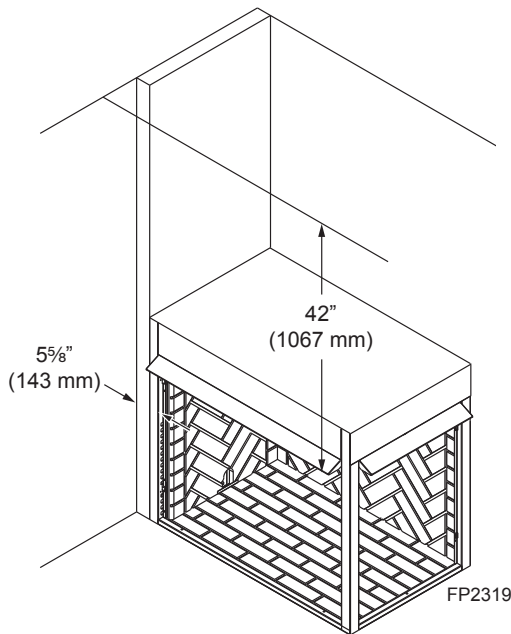

Figure 3 - Sidewall and Ceiling Clearances
Ensure that minimum clearances shown in *Figures 3 through 7* are maintained. Left and right clearances are determined when facing the front of the firebox.
1. **Sidewall Clearances** — The clearance from the inside of the appliance to any combustible adjacent wall should not be less than 5⁵/₈". Refer to *Figure 3*.
2. **Ceiling Clearance** — The ceiling must be at least 42" from the top of the firebox opening (bottom of hood). Refer to *Figure 3*.